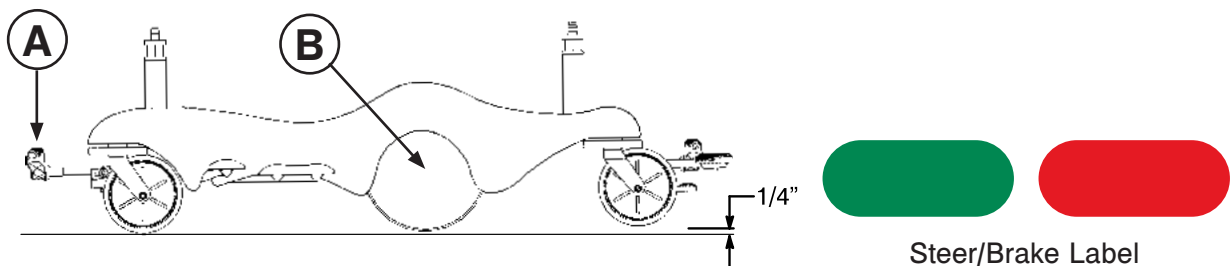

Figure 15: Steer Position
When the brake/steer pedal (A) is in the steer position, the foot end casters are elevated approximately 1/4" and the stretcher rests on the two head end casters and the two big wheels (B) as shown in Figure 15. This provides increased mobility and ease of steering the stretcher. See page 25 for pedal operations.